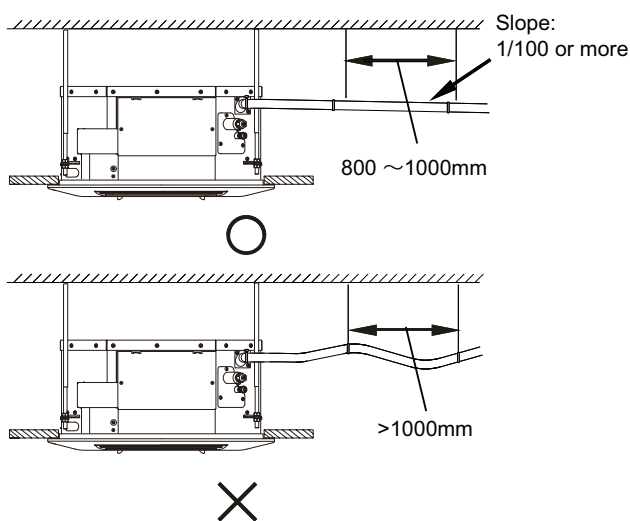

Figure 5.1
- In order to prevent the back-flow of water into the interior of the air conditioner when the operation stops, the water discharge pipe should slope downwards towards the outside (drainage side) at a slope of more than 1/100. Make sure that the water discharge pipe does not swell or store water; otherwise, it will cause strange noises. See Figure 5.1.
- When connecting the water discharge piping, do not use force to pull the pipes to prevent the water suction pipe connections from coming loose. At the same time, set a supporting point at every 0.8~1 m to prevent the water discharge pipes from bending. See Figure 5.1.